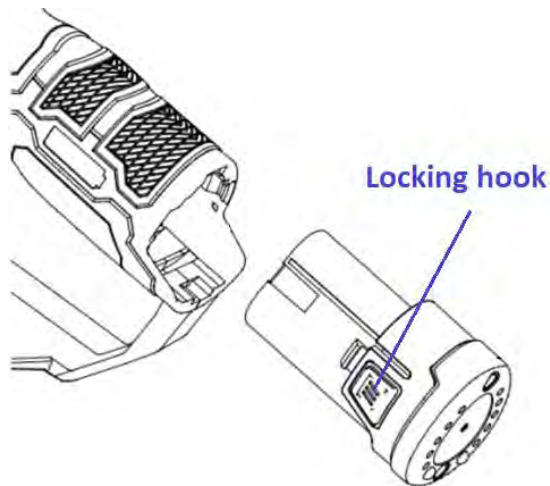

Fig. 3
Removing and installing the battery (Fig. 3)
- To install the battery, align the battery with the tool as illustrated in Fig. 3, then insert into the battery compartment until an audible click sound is heard.